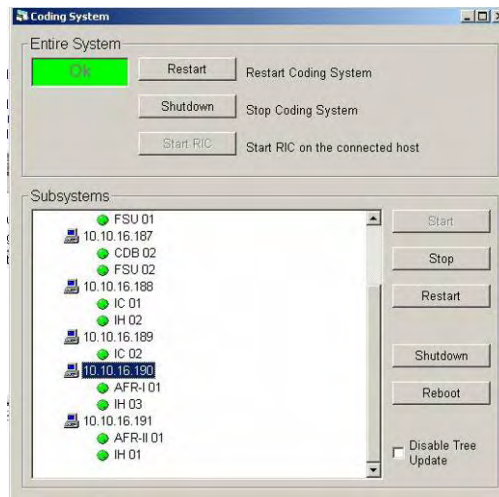

Figure 1-248. Start/Stop Window with System Selected
3. Open the Start/Stop frame by selecting **System** and **Start/Stop** on the "Supervisor User Interface" menu bar. The "Coding System" window is displayed (Figure 1-248).